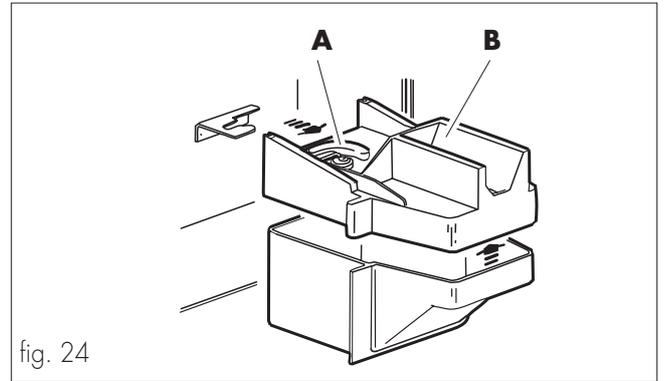

fig. 24
- Opening the lock (ref. A, fig. 24) with the special key.
- Remove the cover (ref. B, fig. 24).
- Reinsert it in its seat (fig. 24).